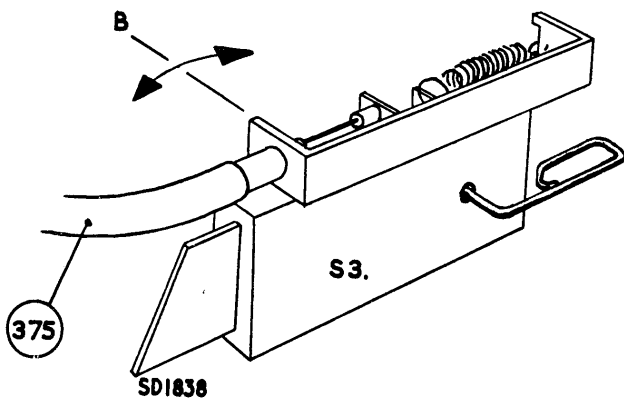

Fig. 14
- (i) This cable is checked after replacement in a similar manner. With the track selector switch S3 in position 2-3 (button up), it should be possible to pass the test wire through switch via holes (see Fig. 14). Adjust position of slider by bending lip B or altering position of the nipple on cable end.